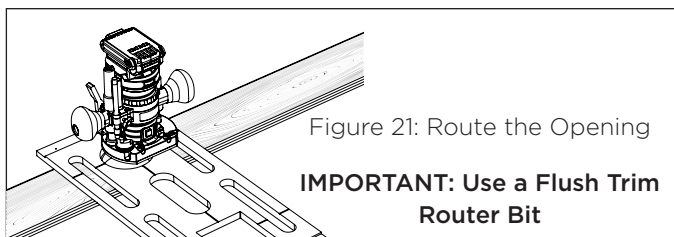

Figure 21: Route the Opening
6. Use a Flush Trim Router Bit to clean up the cutout, allowing its bearing edge to ride along the Alignment Board template as a guide (See Fig. 21).